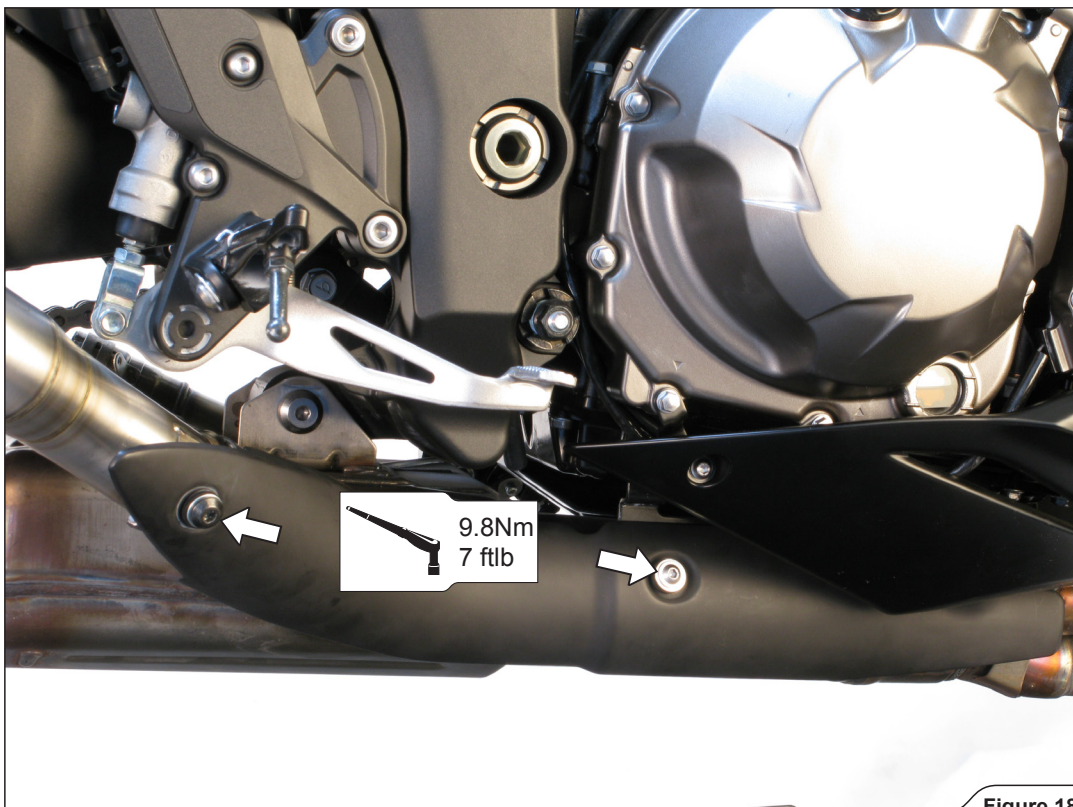

Figure 18
7. Reinstall the right side heat shield (**Figure 18**).